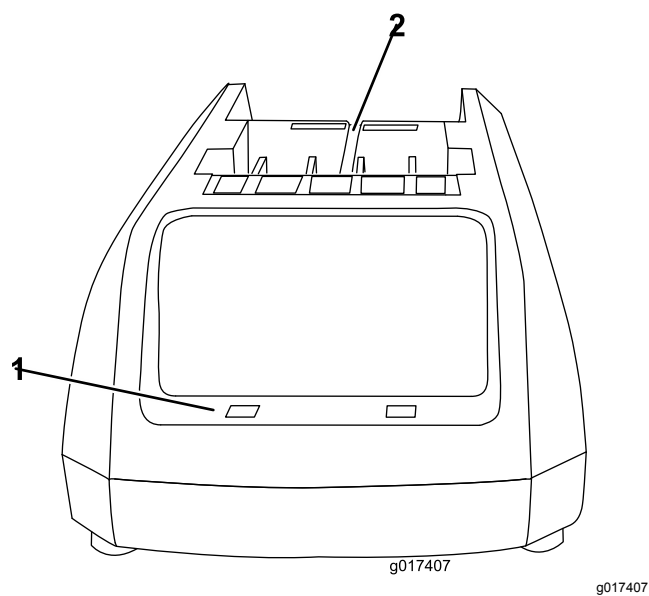
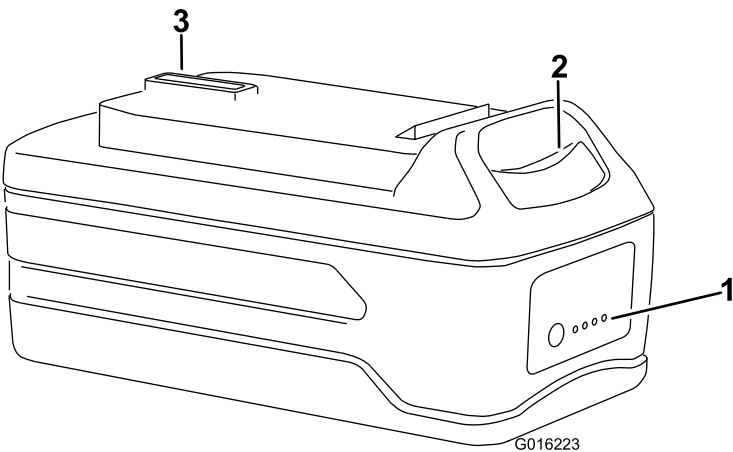

Figure 1
Figure 2
- 1. Turn the battery upside down and line up the battery terminal with the slot in the charger (Figure 1 and Figure 2).